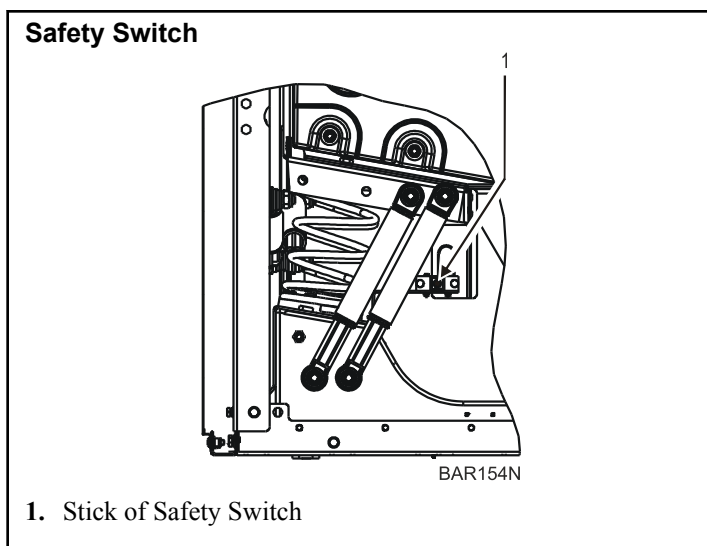

Figure 51
- The X dimension represents the distance between the lower edge of the lug and the stick of safety switch. Refer to *Figure 51* .